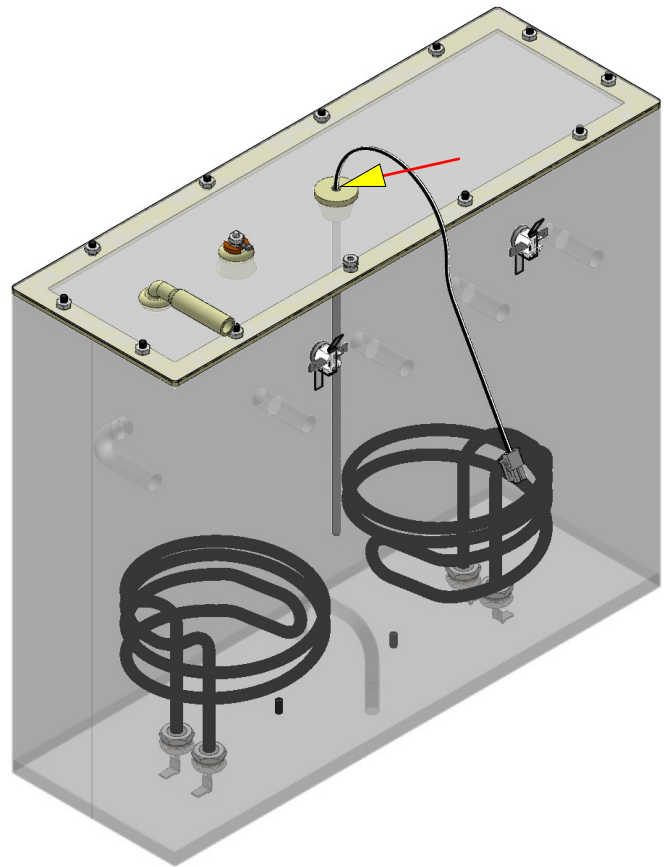

FIG. 19-2 TEMPERATURE PROBE
2. With a DC voltmeter, check voltage across the two wires at J13 (J3 on ITB) on control board (black probe to black wire, red probe to white wire refer to FIG 19-2). Connect the brewer to the power source. The indication should be between 4vdc (cool) to 1vdc at ready temperature.